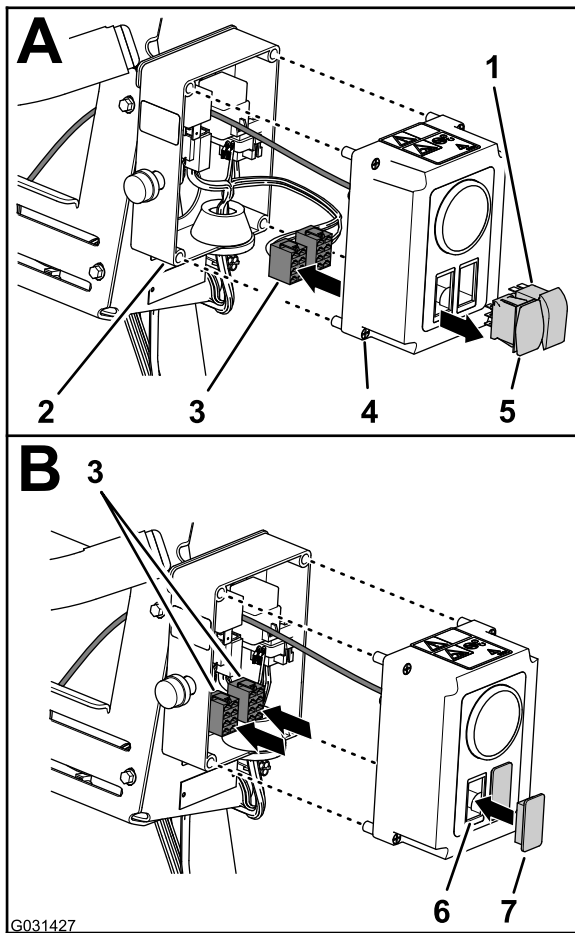
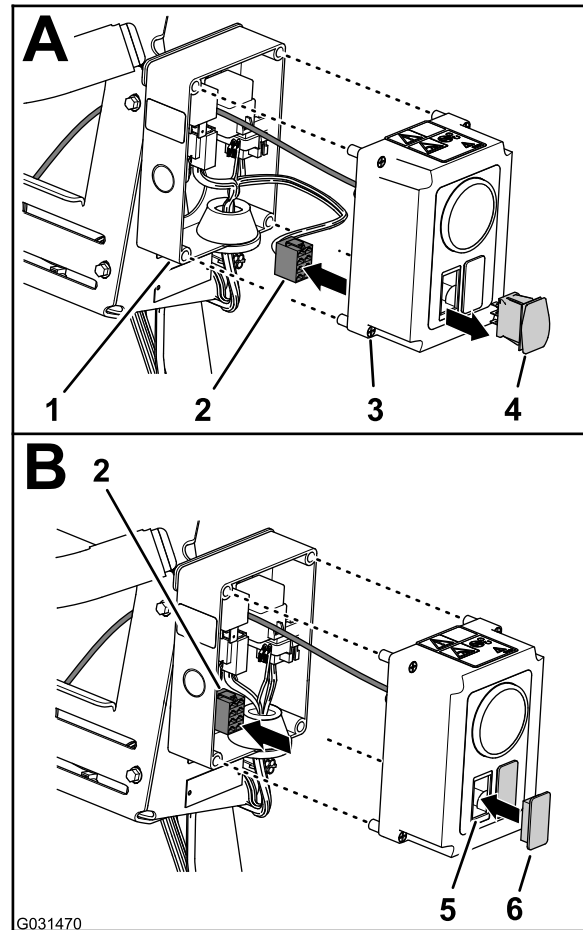

Figure 15
Figure 16
1. At the control box for the electric hose reel kit, fully loosen the 4 cover screws that secure the cover to the control box and carefully pull out the cover (Figure 15).
- Disconnect the 2 connectors (8-socket) for the control-box harness from the pressure-control switch and the On-Off switch (Figure 15).
- Route the 2 connectors (8-socket) inside the control box (Figure 15).
- Squeeze the lock tabs of the 2 switches and press the switches out of the cover for the control box (Figure 15).
- Disconnect the 8-socket connectors for the control-box harness from the pressure-control switch (Figure 16).
- Route the 8-socket connector inside the control box (Figure 16).
- Squeeze the lock tabs of the switch and press the switch out of the cover for the control box (Figure 16).
- Align the switch plug(s) to the opening(s) in the cover where you removed the switches (Figure 15 and Figure 16).
- Insert the switch plug(s) into the cover until the plug(s) snap into the cover securely (Figure 15 and Figure 16).
- Align the cover to the control box and secure the cover to the box with the 4 cover screws (Figure 15).